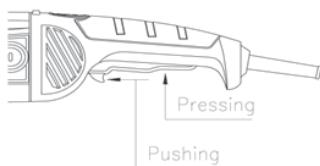

Figure 7
2)Start the tool by pushing forward on the switch, then pressing the trigger of switch down slightly.(figure 7)